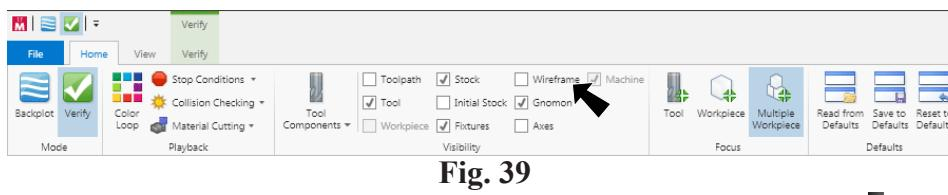

Fig. 39
Step 3. Click uncheck **Wireframe** in Mastercam Simulator home ribbon bar, Fig. 39.